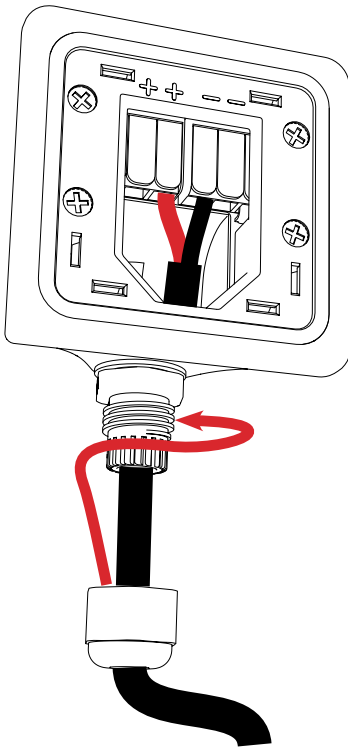

Figure 9a. Thread cable through gland nut and barrel into ClickPlug (2 conductor cable shown)
3. Wire ClickPlug as shown (Figures 9a, 9b) leaving enough for the likely mounting angle and a drip loop for damp/wet applications. Do before mounting the loudspeaker.